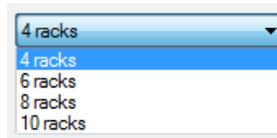

Figure 52. Tank type drop-down menu
- **Tank type** field contains a drop-down list for selection of the structure of radial liquid nitrogen tank. At the moment tanks with 4, 6, 8 and 10 racks are available (Fig 52).